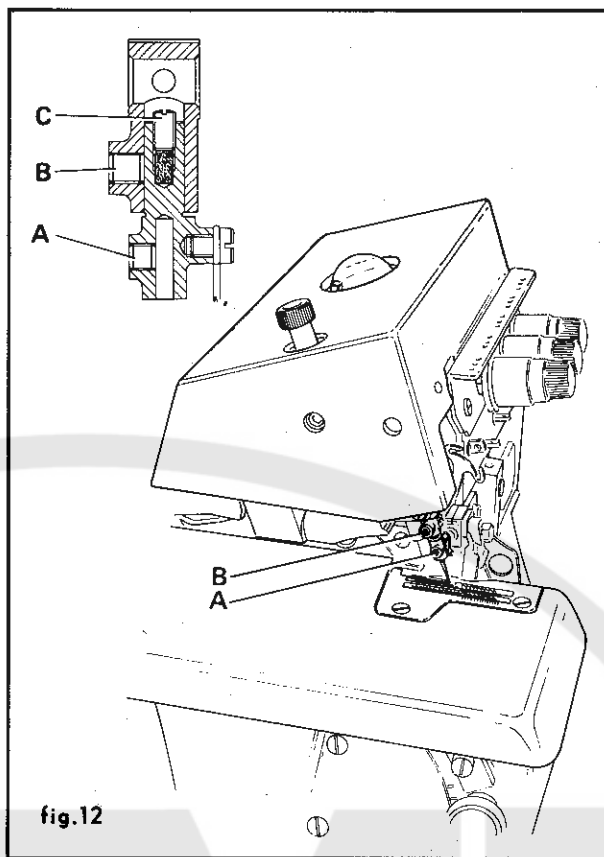

fig.12
SETTING ON AND ADJUSTING NEEDLE CLAMP (Fig. 12)
- Insert the needle down inside the clamp and fasten it with screw A (fig. 12)
- Set the clamp on slider B (fig. 12), taking care to position the needle with the scarf facing inwards on the machine
- Slacken screw B (fig. 12) and take off the clamp
- Turn adjusting screw C (fig. 12) which acts as stop to the clamp in the slider seat, tightening it to increase the needle height and slackening it to decrease the height.